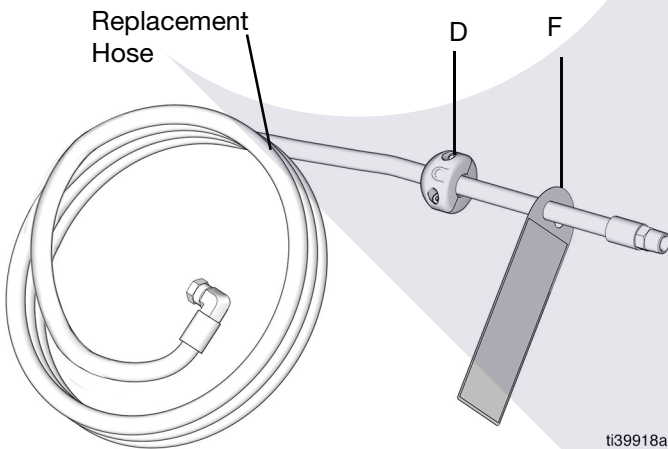

FIG. 15
- Install the hose stop (D) to the end of the replacement hose. If the hose has a warning tag (F), the hose stop (D) should be installed on the same end as the warning tag (F) (FIG. 15).